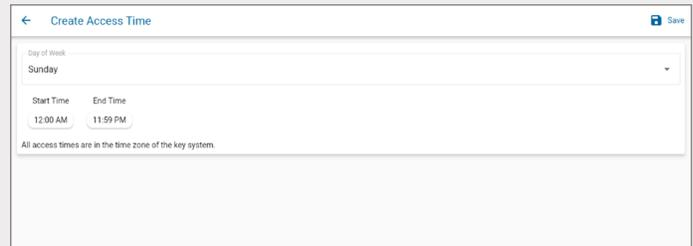

Fig. 110 – Create Access Time screen
3. Select the desired **Day of Week**, then enter the **Start Time** and **End Time** for the access window, as shown in Fig. 110.